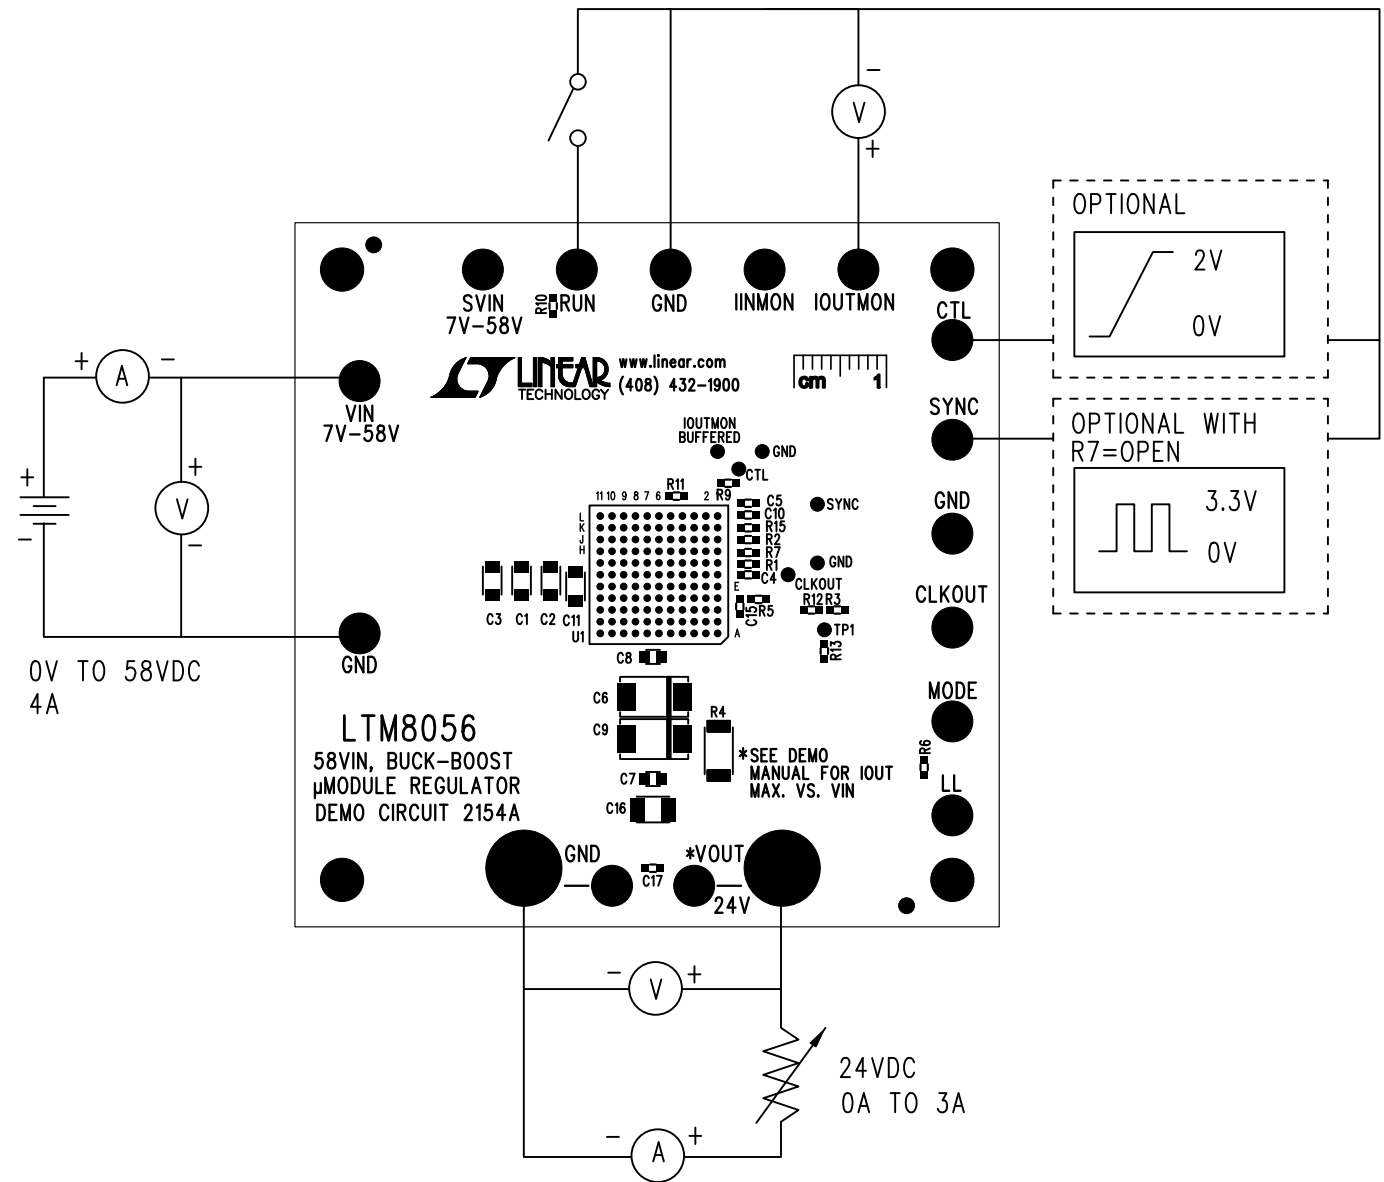
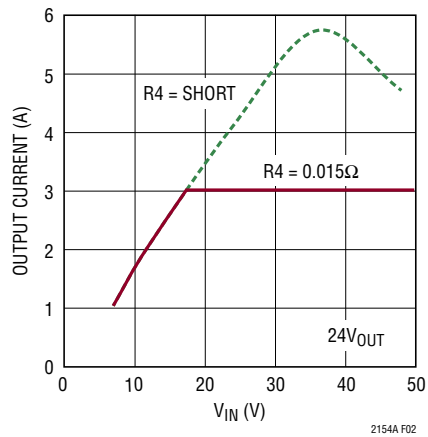

Figure 1. Proper Measurement Equipment Setup
Figure 2. Maximum Output Current vs Input Voltage for  $V_{OUT} = 24V$
To use DC2154A to evaluate the performance of the LTM8056, refer to Figure 1 for the proper measurement equipment setup, Figure 2 for the maximum output current versus input voltage and then follow the procedure below:
1. Connect the RUN terminal to ground with a clip-on lead. Connect the power supply (with power off), load, and meters as shown in Figure 1.